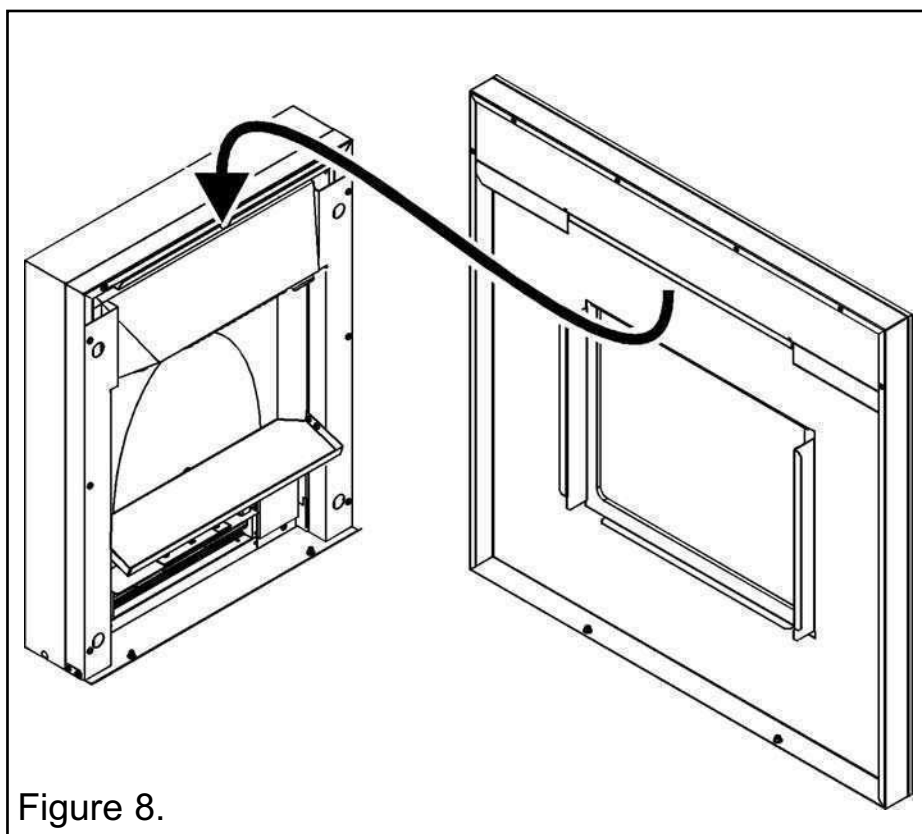

Figure 8.
4. Locate the fascia onto the heater. To do this locate the bracket at the top of the fascia into the bracket at the top of the front spacer (See figure 8).